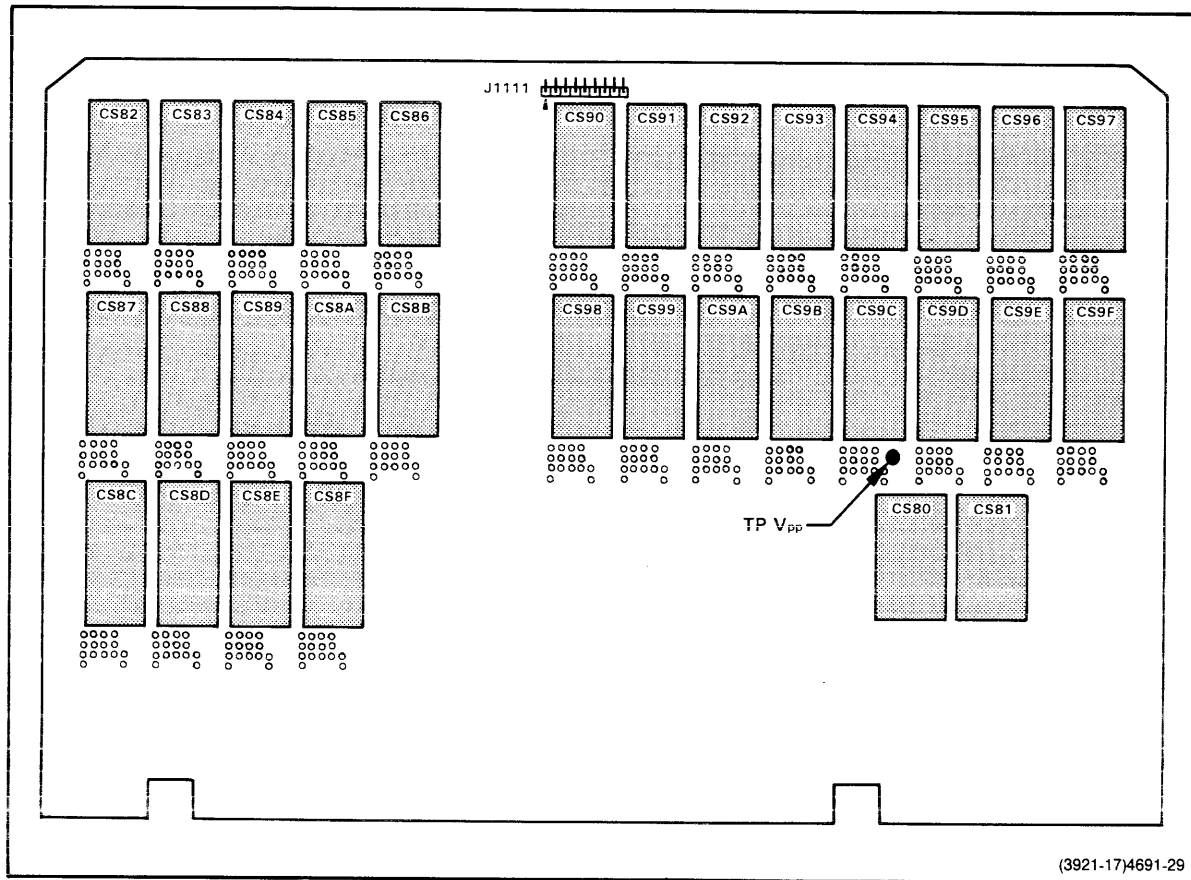

Fig. 6-10. System ROM Board socket locations.
3. Check the part number on the ROM labeled "BASE DIAG 1" installed in your System ROM Board. BASE DIAG 1 is normally installed in the socket labeled CS94 shown in Fig. 6-10. The socket circuit designator is U1160. If the BASE DIAG 1 part number (160-1378-xx) is lower than the part number on the BASE DIAG 1 ROM shipped with your emulator, then replace the installed ROM with the new ROM. (Install the BASE DIAG 1 ROM with the highest extension number.)
4. The four type-27128 ROMs shipped with your emulator may be installed in any available sockets you choose. However, it is recommended that emulator option ROMs be installed in any of the ten sockets labeled CS82--CS8B shown in Fig. 6-10. (The socket circuit designators are U1010, U1030, U1050, U1060, U1070, U3010, U3030, U3050, U3060, and U3070).
- Install the PROM Programmer option ROMs in locations CS90 and CS91 shown in Fig. 6-10. The socket circuit designators are U1110 and U1120.
- Install the Communications option (COMM Option) ROM in location CS8F shown in Fig. 6-10. The socket circuit designator is U4060.
- Install the Trigger Trace Analyzer option ROMs in locations CS8E, CS8D, and CS8C shown in Fig. 6-10. The socket circuit designators are U4050, U4030, and U4010.